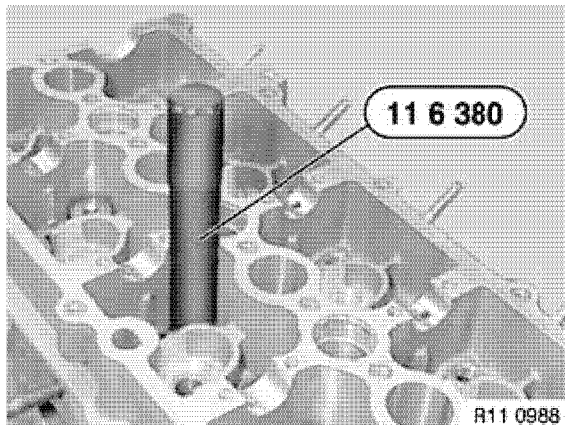

Figure 5-31
- Press valve stem seal into place with special tool OEM No. 11 6 380 until it is seated (**Figure 5-31**).